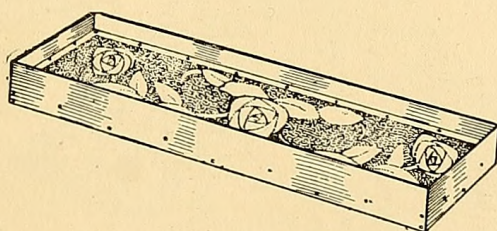
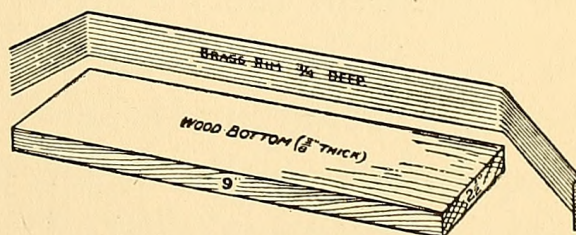

FIG. 283. — A Pen Tray.
FIG. 284. — Wood Bottom and Brass Rim for the Pen Tray.
**The Pen Tray** illustrated in Fig. 283 requires a bottom block of the size shown in Fig. 284. After preparing
this, cut a piece of brass of the exact width and length of the block and fasten it to the top with escutcheon pins, spacing the pins about as shown in Fig. 283. Then en-
The ends of the strip should be made to lap at one corner as in Fig. 283. File off the top edge of the rim smooth and glue a piece of felt to the bottom of the tray to prevent it from scratching any surface upon which it is placed.